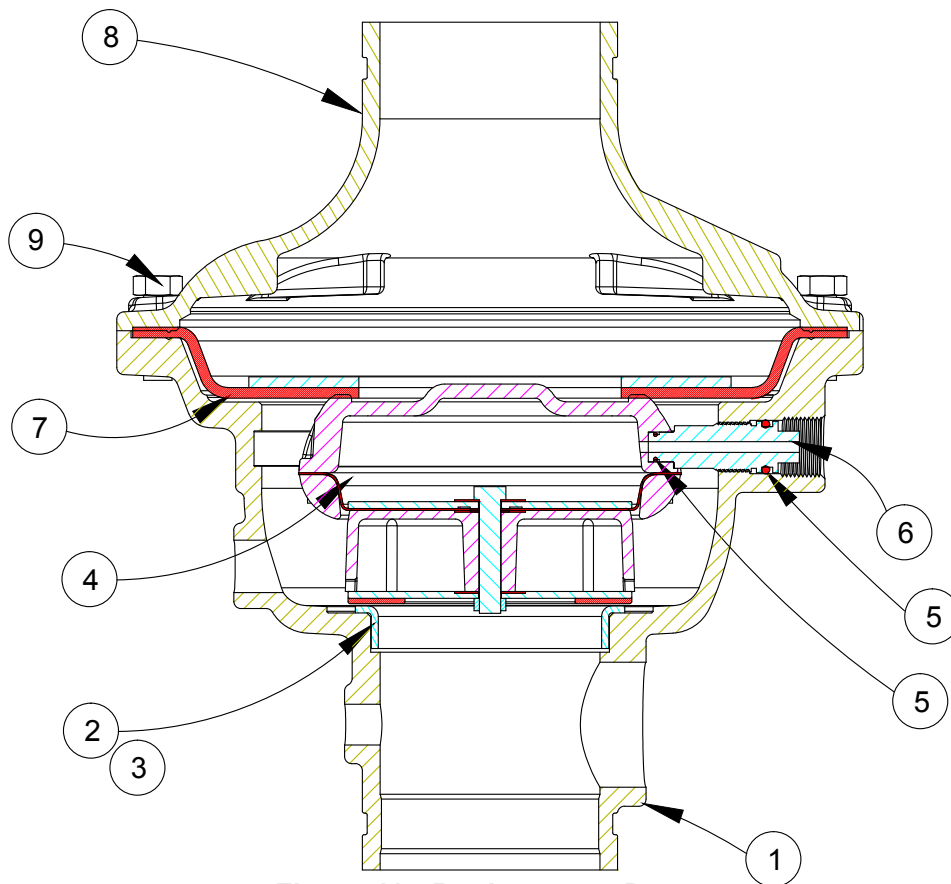

Figure 11 - Replacement Parts
5. Remove the 12 cover screws (12).
6. The cover (11) and trim that is still connected may now be removed from the body. (It may be necessary to pry the valve open as the diaphragm may bond itself to the cover (11) and valve body over time.)
C. Removing / Replacing the Check Diaphragm: (Refer to Figure 11.)
1. The check diaphragm (10) may be lifted from the valve body (1).
2. If necessary, replace the check diaphragm (10).
D. Inspecting the Prime Chamber and Coupling for leaks: (Refer to Figure 11.)
E. Removing / Replacing the Prime Coupling: (Refer to Figure 11.)
2. Using a wrench on the flats of the coupling (7), remove the coupling (7) from the valve body (1).
3. Inspect the coupling (7) and two O-rings (5 & 6). Replace if necessary, using the instructions in O-Ring Replacement Bulletin F_120611.
F. Removing / Replacing the Prime Chamber Assembly: (Refer to Figure 11.)
1. The prime chamber assembly (4) is now held in place by two flanges on the outside diameter of the assembly. Slide the prime chamber assembly (4) toward the prime line and remove from the body.
G. Re-Assembling the Valve: (Refer to Figure 11.)
1. Place the prime chamber assembly (4) in the valve body (1). Make sure the two flanges are positioned in the groove.
2. Thread the prime coupling (7) into the valve body (1). Make sure the end of the prime coupling (7) is inserted into the prime chamber assembly (4).
3. Tighten the 1/4" socket set screw (8).
4. Lay the check diaphragm (10) into the valve body (1).
5. Position the cover (11) onto the valve body (1), and install and tighten the cover screws (12).